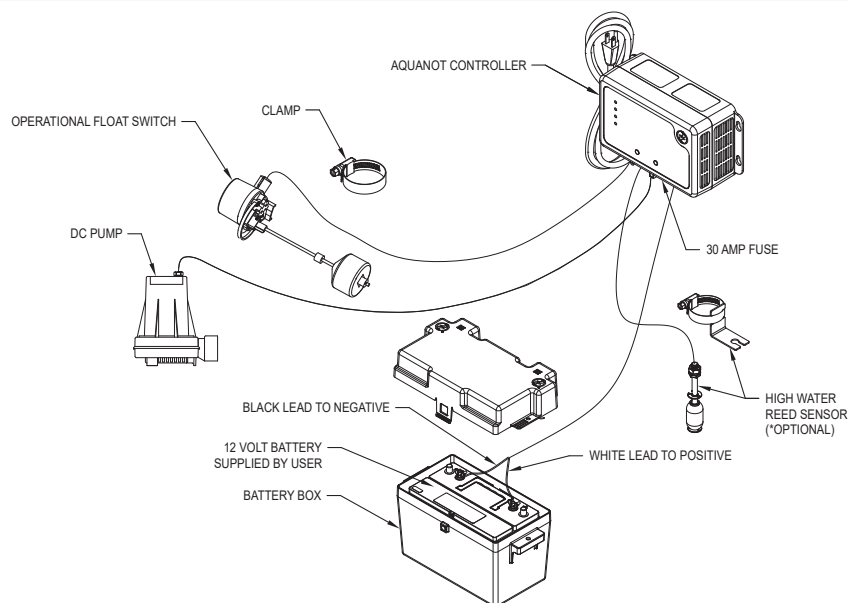

FIGURE 3
5. Install the Spin™ controller (see Figure 3) by using the anchors provided. For best cooling, install wall mount configuration. The controller should be located at least 3' (1 m) above the sump.